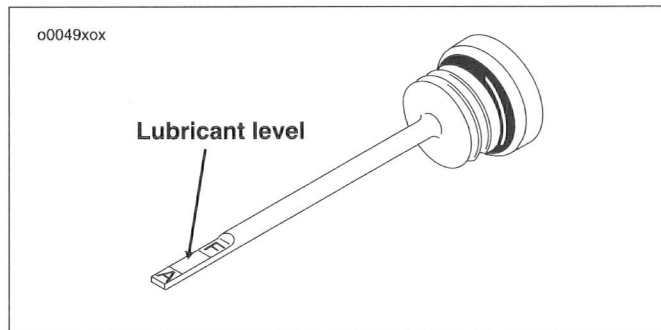

Figure 65. Transmission Filler Plug/Dipstick
4. See Figure 65. Remove dipstick and take reading.